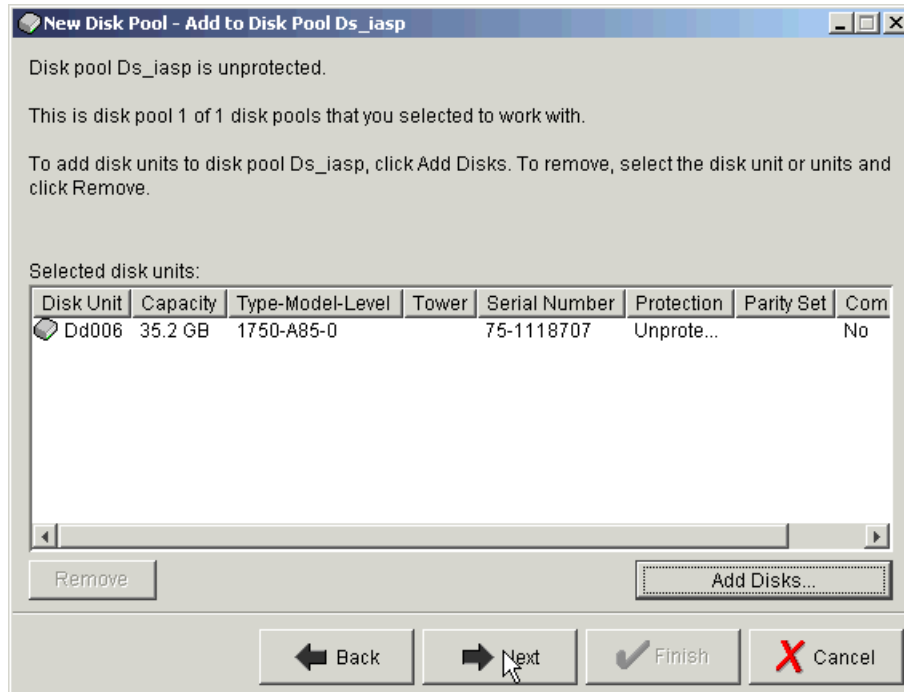

Figure B-16 Confirm disks to be added to Disk Pool
11. A confirmation screen appears as shown in Figure B-16 on page 340. Click **Next** to continue.